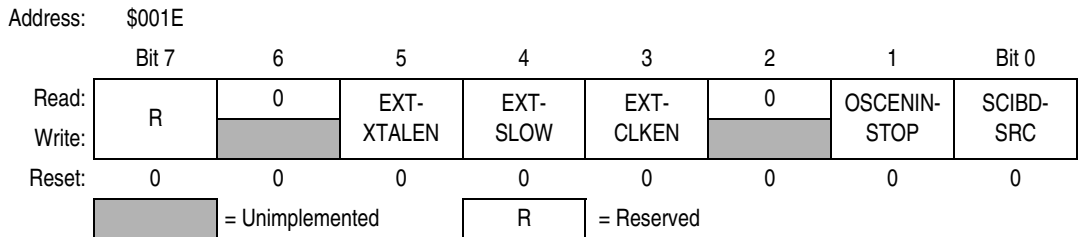
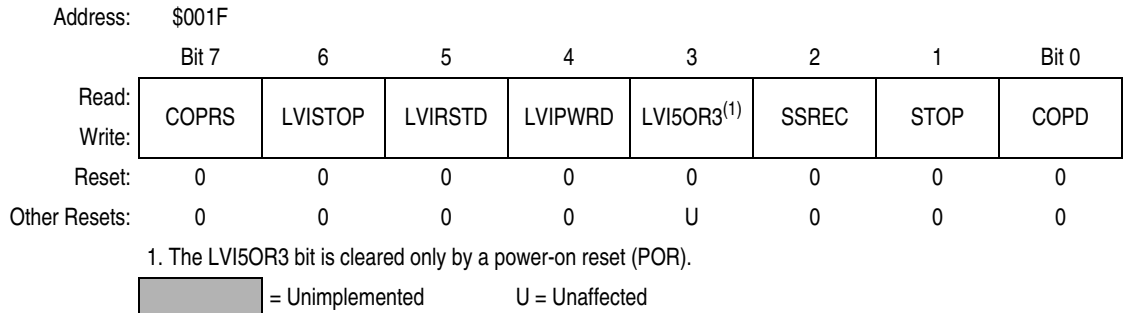

Figure 4-1. Configuration Register 2 (CONFIG2)
Figure 4-2. Configuration Register 1 (CONFIG1)
*On a FLASH device, the CONFIG registers are special registers containing one-time writable latches after each reset. Upon a reset, the CONFIG registers default to predetermined settings as shown in Figure 4-1 and Figure 4-2.*